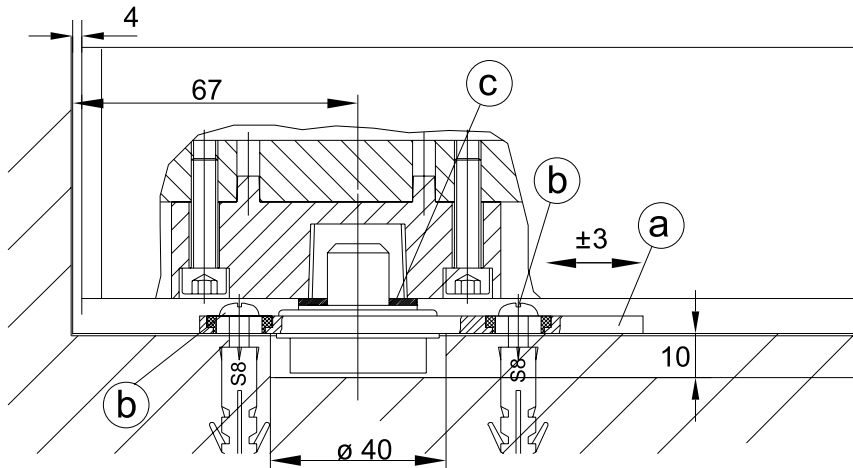

Fig. 3
3. Lower floor pivot assembly for the pivoting end panel (Fig. 3):